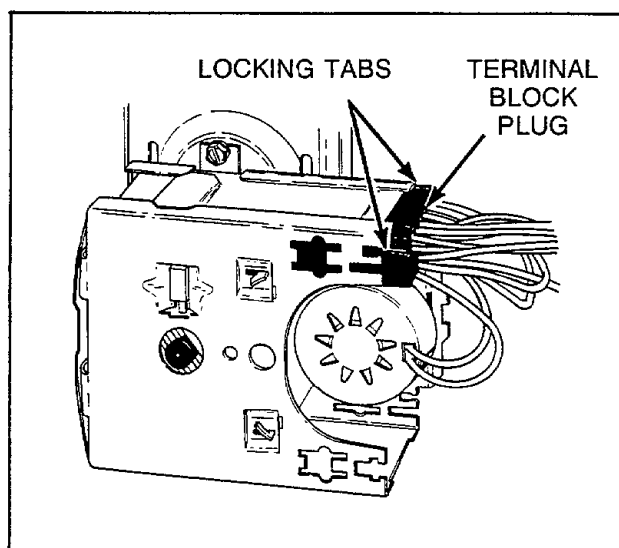

Figure 3
- a. Disengage wire harness terminal block plug from the timer by pressing in on the movable locking tabs (located on each side of the terminal block plug) and pulling plug away from timer, *Figure 3*.